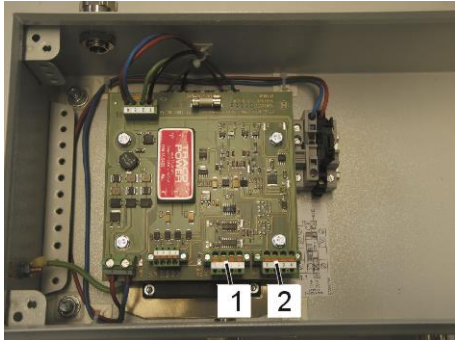

Fig.79: Connectors X3 and X4
- Bus cable from Terminal box on the left to X3 (Fig.79/1)
- Bus cable from Terminal box on the right to X4 (Fig.79/2)